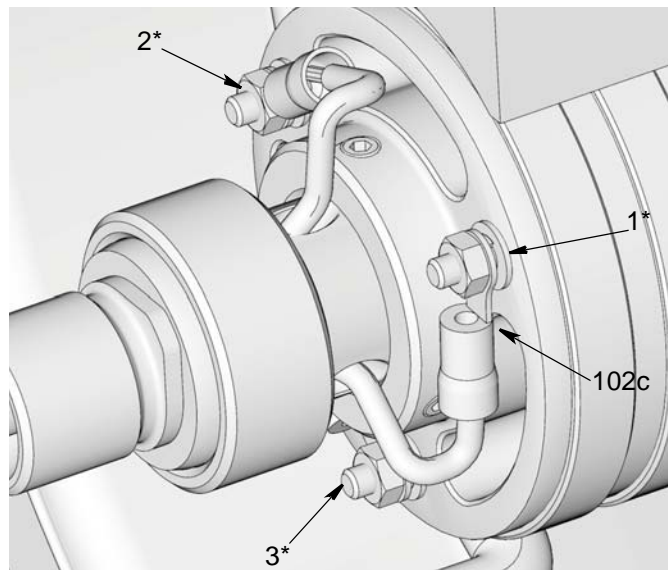

FIG. 18
4. Mount terminal rings (102c) to appropriate mounting stud as shown in FIG. 18. Refer to Table 3 for wire locations.